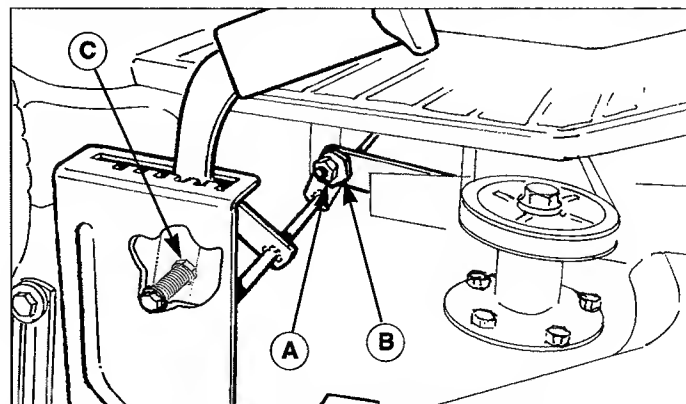

Figure 29. Front-to-Back Adjustment Nut
3. See Figure 29. Loosen the outside nut (A) and turn the eccentric nut (B) to raise or lower the rear of the deck. When the mower deck is level, hold the eccentric nut while tightening the outside nut.
**NOTE:** If mower handle drops out of cutting height quadrant, turn adjustment nut (C, Figure 29) clockwise to increase spring tension. DO NOT tighten nut all the way so that spring is solid.